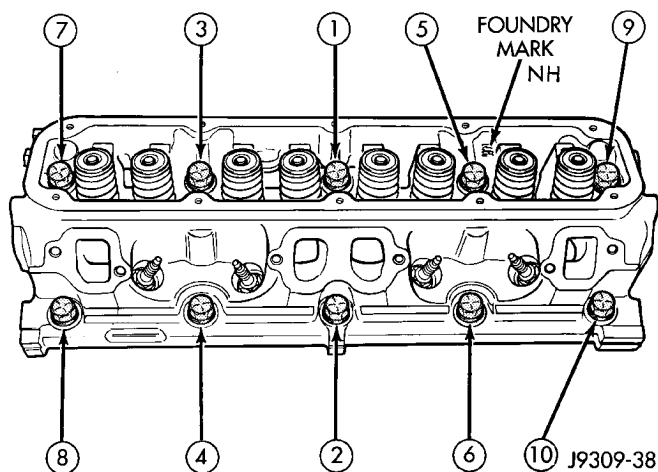

Fig. 19 Cylinder Head Bolt Tightening Sequence
- (1) Position the new cylinder head gaskets onto the cylinder block.
- (2) Position the cylinder heads onto head gaskets and cylinder block.
- (3) Starting at top center, tighten all cylinder head bolts, in sequence, to 68 N·m (50 ft. lbs.) torque (Fig. 19). Repeat procedure, tighten all cylinder head bolts to 143 N·m (105 ft. lbs.) torque. Repeat procedure to confirm that all bolts are at 143 N·m (105 ft. lbs.) torque.